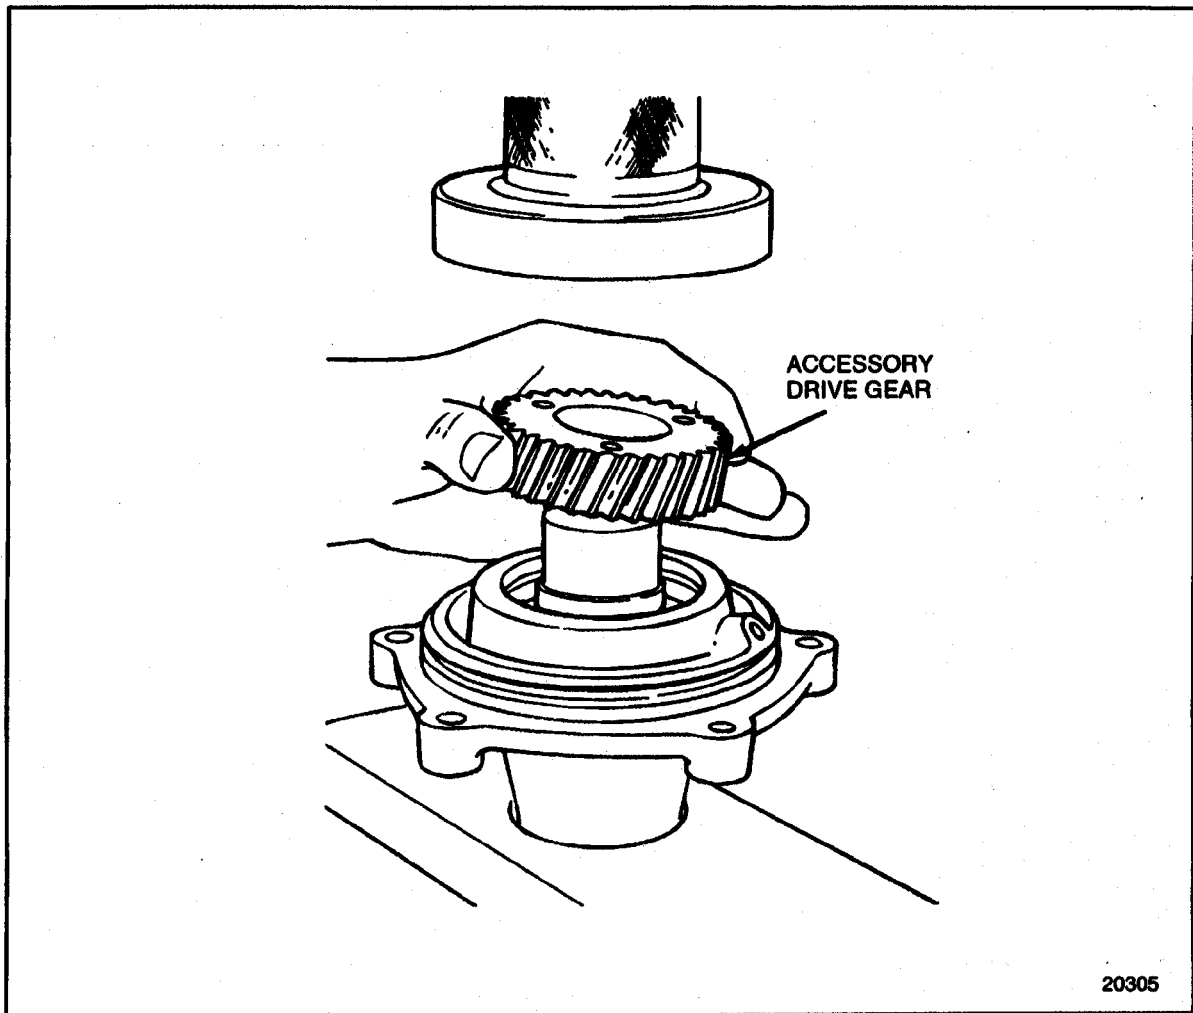

Figure 1-421 Accessory Drive Gear Installation
15. Use a press to install the drive gear on the accessory drive shaft until it is flush with the drive shaft end. Make sure the three threaded holes are facing up. See Figure 1-421.